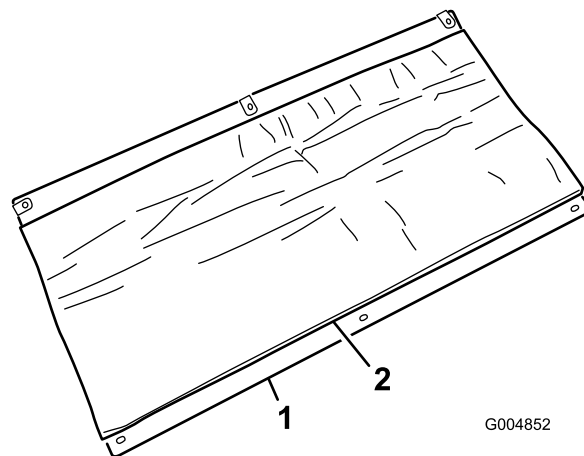

Figure 4
5. Remove the backing and affix the self-adhesive heat shield material to the engine side of the rear panel, positioning as shown in Figure 4. Do not re-install the panel at this time.